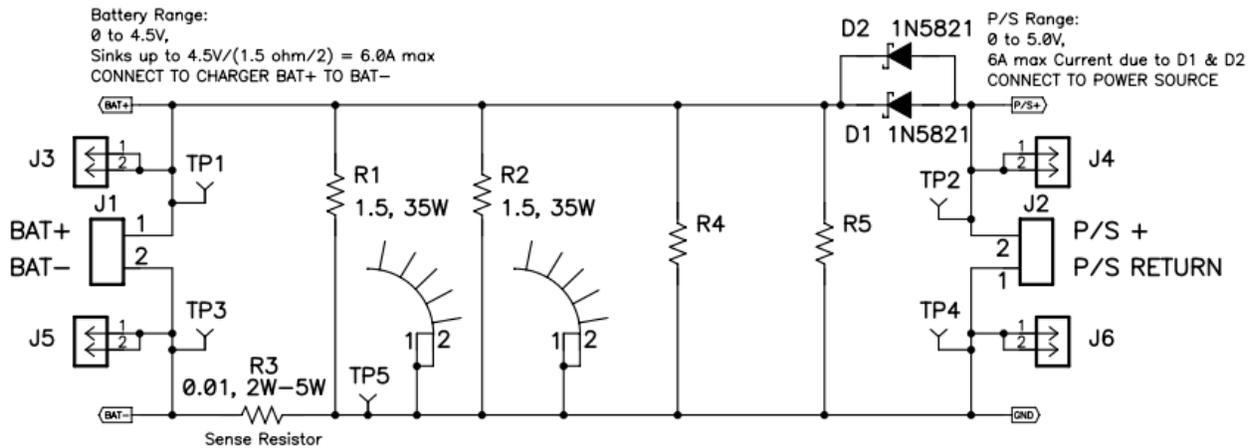

Figure 3. BAT Load (PR1010) Schematic
After the preceding steps are accomplished, the test setup for PWR731 is as shown in Figure 3.
3. Go to Field View of the GUI and then read all the registers. All the default register values should be shown in the register map. (As shown in Figure 3)